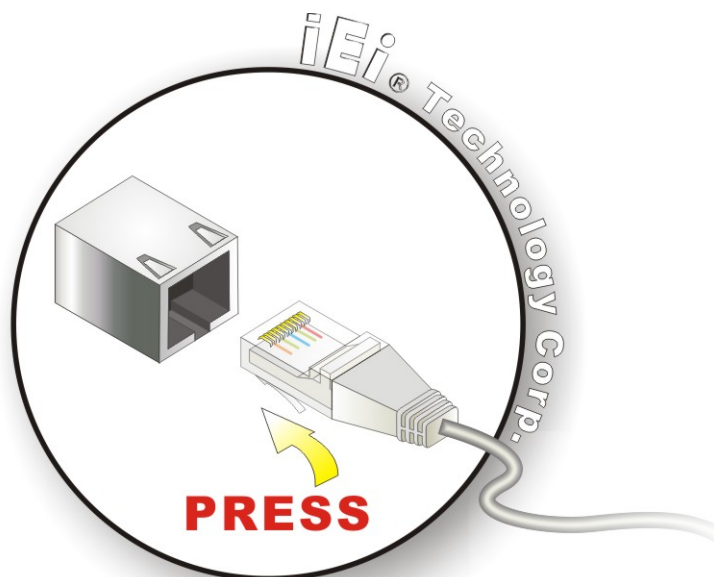

Figure 5-14: LAN Connection
Step 2: **Align the connectors.** Align the RJ-45 connector on the LAN cable with one of the RJ-45 connectors on the WSB-945GSE. See Figure 5-14.